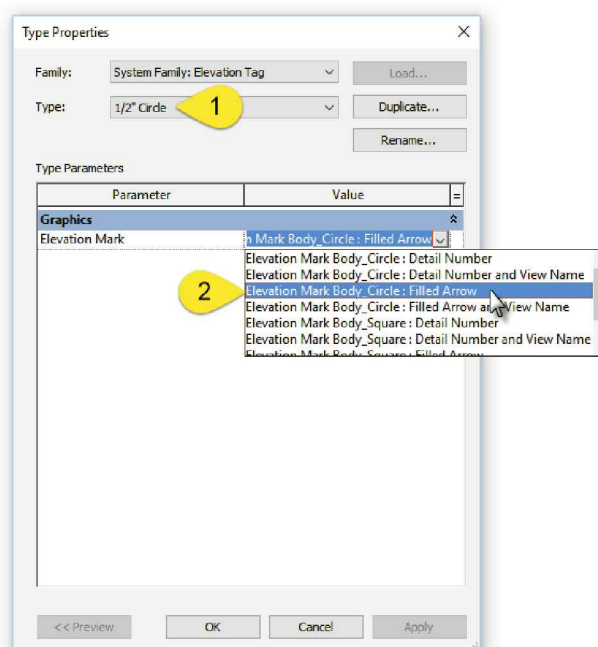

FIGURE 10-2.6 Adjusting the interior elevation tag
17. Set the *Type* to **1/2" Circle** (Figure 10-2.6).
18. Select **Elevation Mark Body_Circle: Filled Arrow** from the *Elevation Mark* drop-down list (Figure 10-2.6).